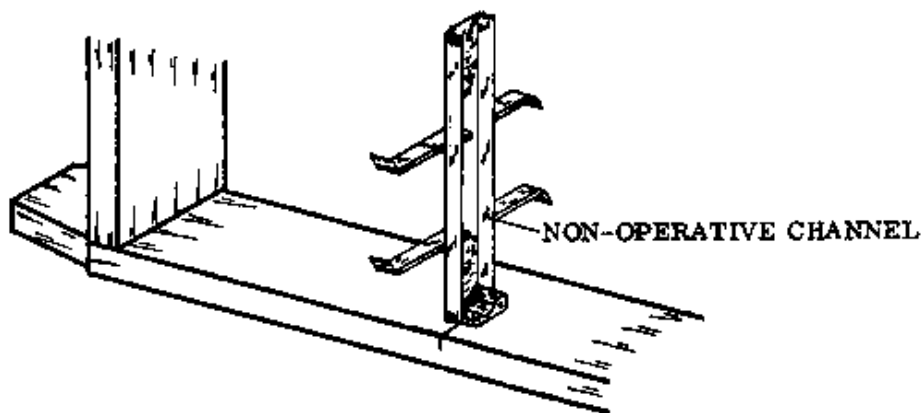

Fig. 4
g. Attach the non-operative channel to the spacers at the head and cill of the frame (Fig. 4).